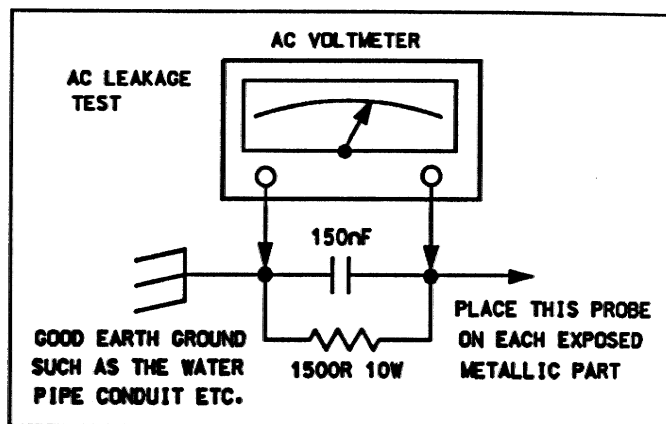

FIGURE 4-3. AC Leakage Test
b) Connect a 1500  $\Omega$ , 10 watt resistor in parallel with a 150nF AC capacitor between a known good earth ground and each exposed metallic part, one at a time. With an AC voltmeter having a minimum sensitivity of 1000  $\Omega/V$ , measure the voltage across the 1500  $\Omega$  resistor. See Figure 4-3. The rms voltage measured **MUST NOT EXCEED** 0.3V rms (this is equivalent to 0.5mA rms current). Values exceeding this limit are potential shock hazards. Correct immediately!